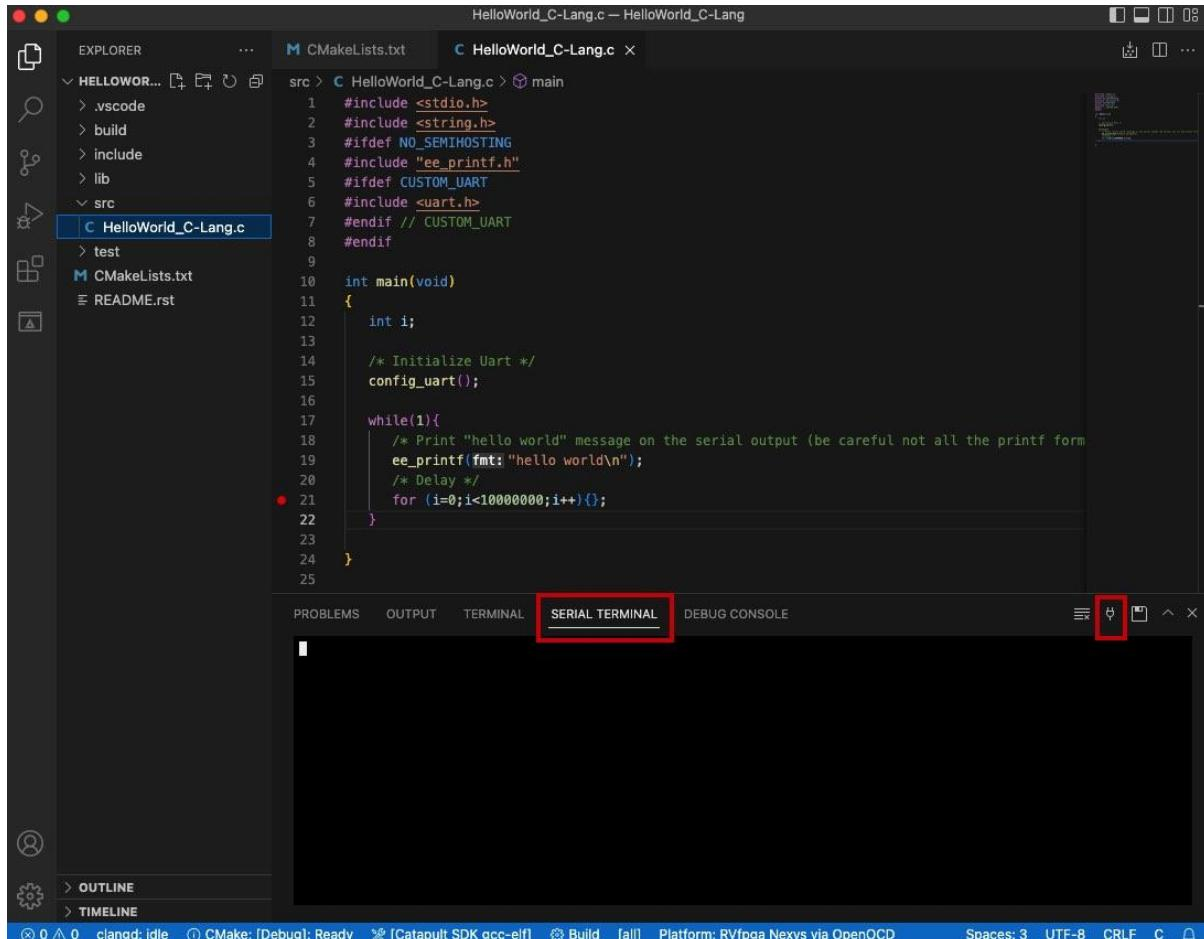

Figure 56: Serial terminal connect icon
3. Click the SERIAL TERMINAL tab in the terminal section of Catapult Studio, then click the connect icon (Figure 56). This leads you through a set of configuration options to connect to the Basys3 serial port. Firstly you must select the correct serial port from a